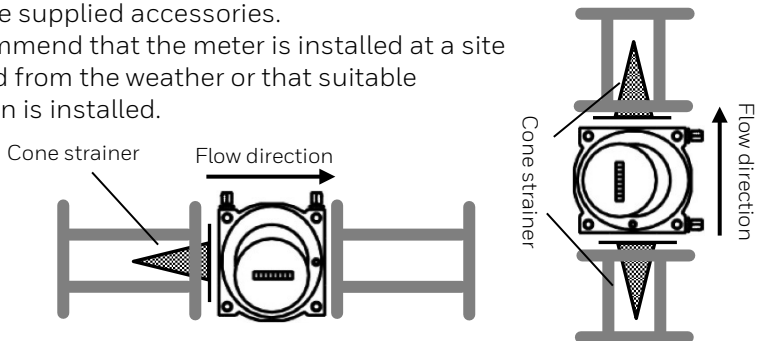

Fig. 11 | Cone strainer installation
- Unscrew the oil filler neck (Fig. 11 | No. 1) depending on the installation position of the meter.
- If an oil-level inspection plug (Fig. 11 | No. 2) is fitted, unscrew it.
- The oil quantity is correct when the oil is visible in the threads of the oil-level inspection borehole (Fig. 11 | No. 2) or in the centre of the inspection window.
- *Drain the oil out of the meter (see Fig. 11 | No. 3 Oil drain sleeve).*